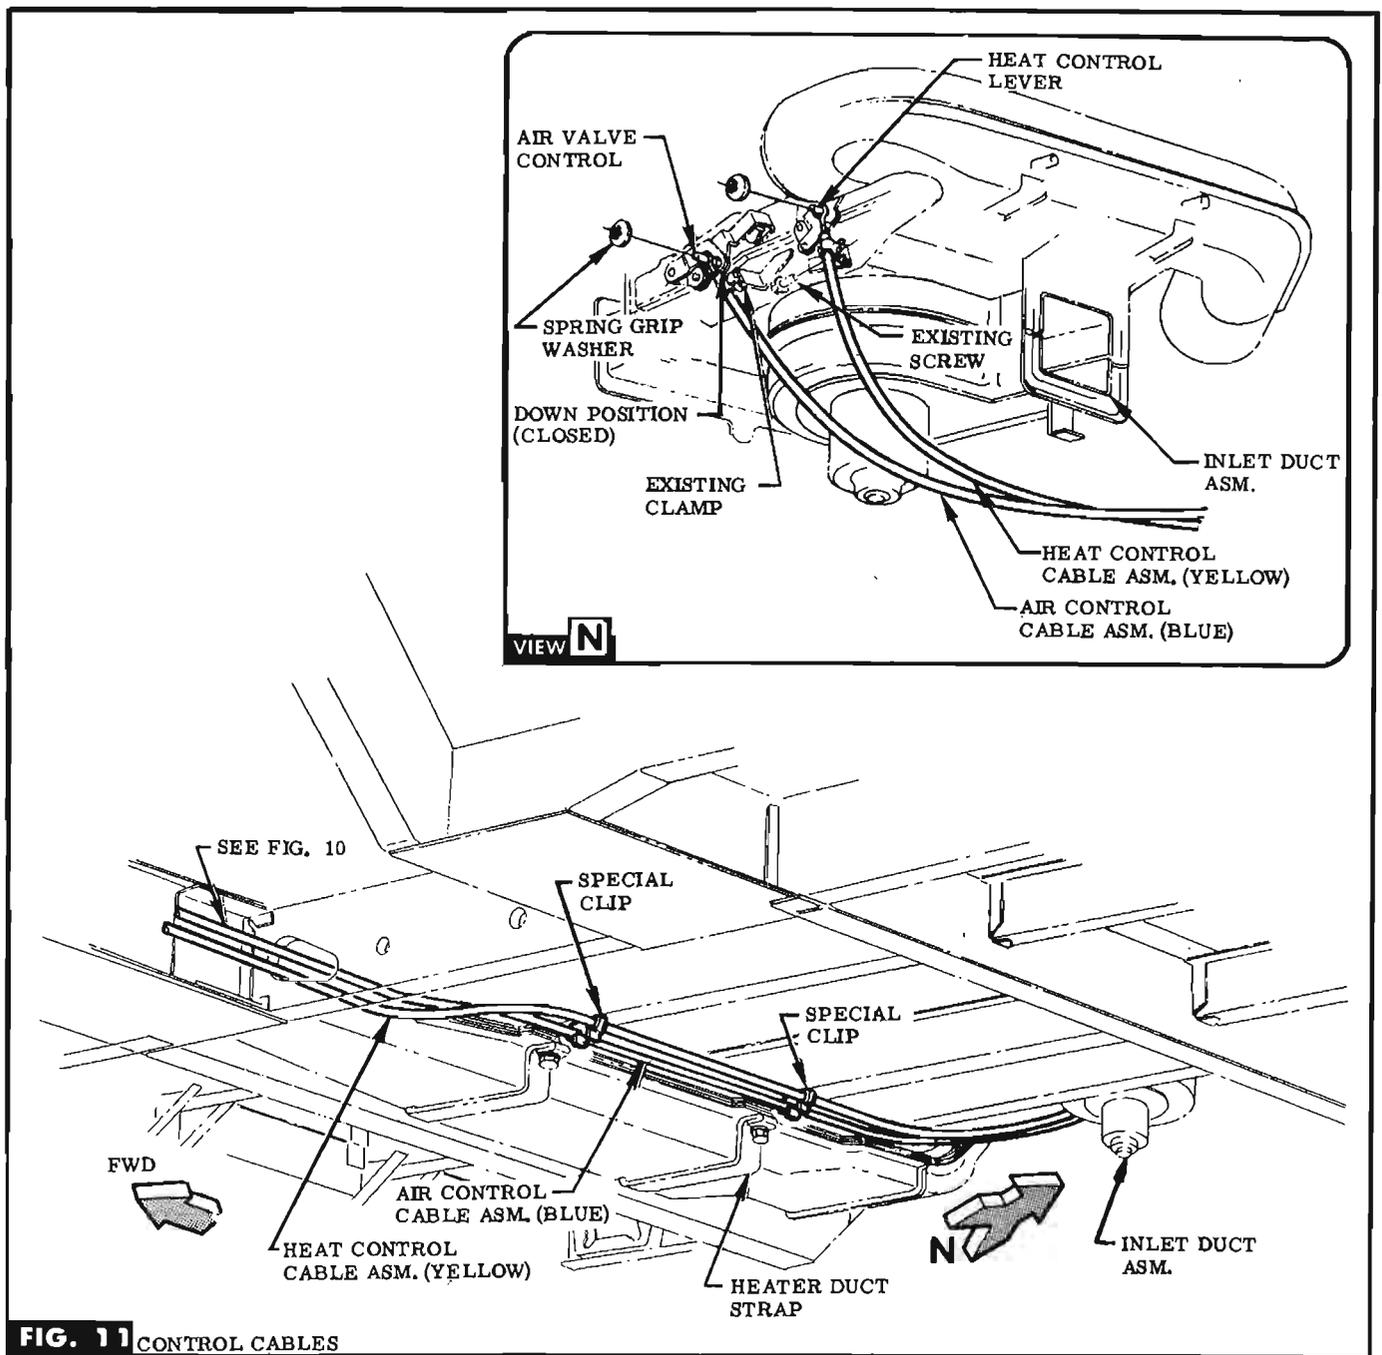

FIG. 11 CONTROL CABLES
STEP 57 INSTALL CLIPS (IN BAG B) TO INTERMEDIATE & REAR CROSSMEMBERS ALONG SIDE DUCT STRAP ATTACHMENTS. SEE FIG. 11.
STEP 58 ROUTE HEAT & AIR CONTROL CABLES REARWARD THRU OPENING IN CROSSMEMBER & THRU CLIPS JUST INSTALLED ON INTERMEDIATE & REAR CROSSMEMBERS. SEE FIG. 11.
STEP 59 WITH VALVE CONTROL LINKAGE IN THE OVER-CENTER CLOSED POSITION, LOOSELY ATTACH HEAT & AIR CABLES TO INLET DUCT WITH EXISTING CLAMPS & SCREWS. SECURE WIRE LOOPS OF CABLES TO THEIR RESPECTIVE CONTROLS WITH SPRING GRIP WASHERS (IN BAG A). SEE FIG. 11, VIEW N.